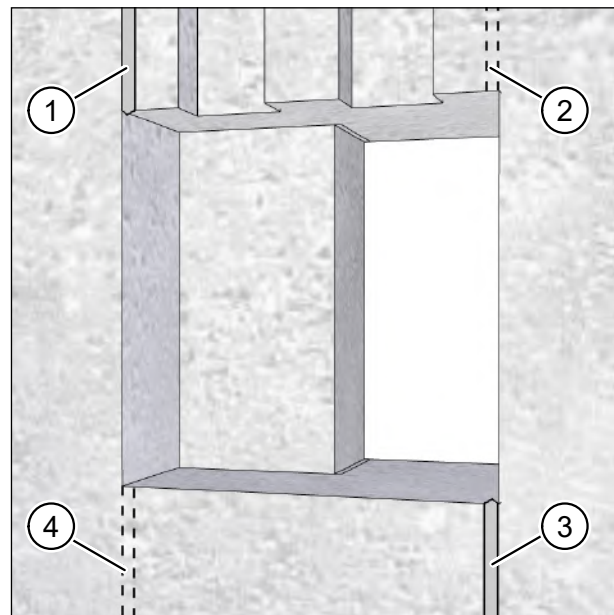

Fig. 18: Chasing out channels for connecting cables
- Chase one channel for the mains cable (item 1 in Fig. 18) and one for the control cable, if required (item 3 in Fig. 18).
- The wall channels in Fig. 18 are shown by way of example. Alternative wall channels are shown as dashed lines (item 2 and item 4 in Fig. 18). For the subsequent electrical installation work, we recommend running the mains cable from the left and the control cable (if used) from the right at the wall breakthrough.